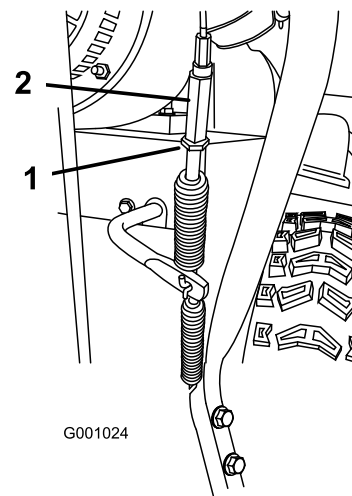

Figure 39
6. Loosen the jam nut (Figure 39).
7. Loosen or tighten the turnbuckle that adjusts the tension on the cable (Figure 39).